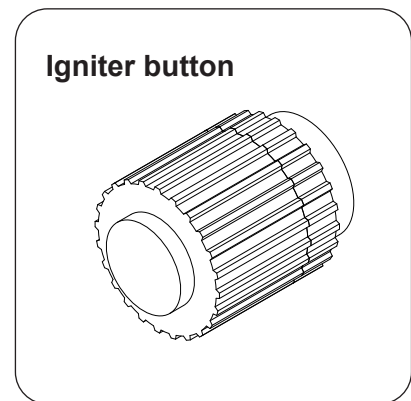

Fig. 31-1
3. Press and hold the electronic igniter button (see Fig. 31-1). The igniter will begin to spark with a rapid clicking sound.